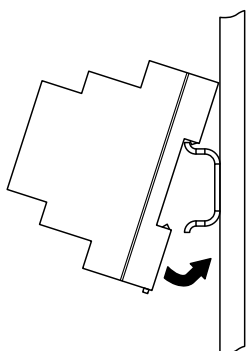
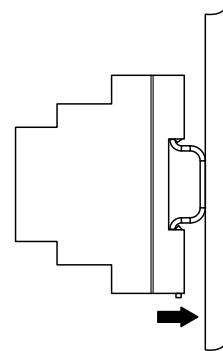
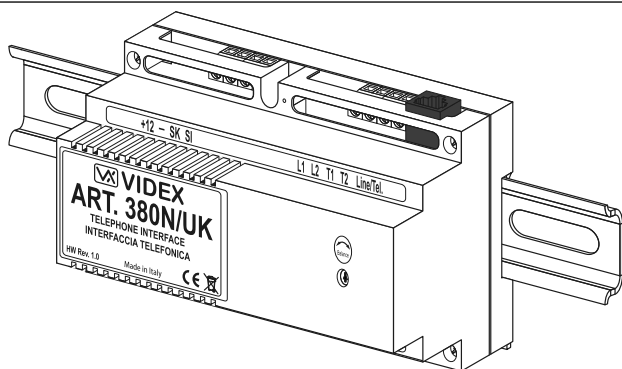
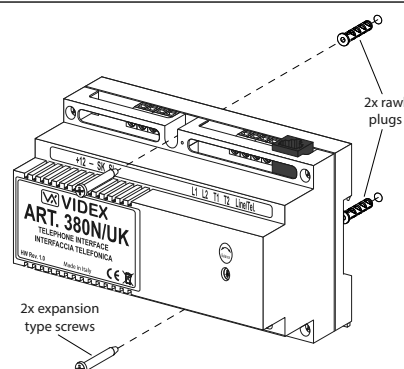

Fig. 13
Fig. 14
Fig. 15
Fig. 16
- Fix the **Art.380N/UK** to a DIN rail, following **Fig.13**, **Fig.14** and **Fig.15**, or directly to the wall using 2x rawl plugs and 2x expansion type screws, see **Fig.16** (2x40mm, Ø3.5mm self-tapping masonry screws and 2x40mm, Ø4mm nylon rawl plugs will suffice).